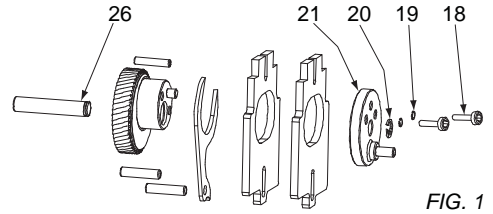

FIG. 1
FIG. 18,19,20,21,26 **NOTES:** Eccentricity Plate (21) Screws and Lock Washers (18-19) must be removed prior to removing E-clip (20) from Gearcase Pin (26) to prevent damaging the E-clip. See Fig. 1
18,19,20,21 E-clip (20) must be reinstalled onto Gearcase Pin (26) prior to installing Eccentricity Plate (21) Screws and Lock Washers (18-19) to prevent damaging E-clip. See Fig. 1